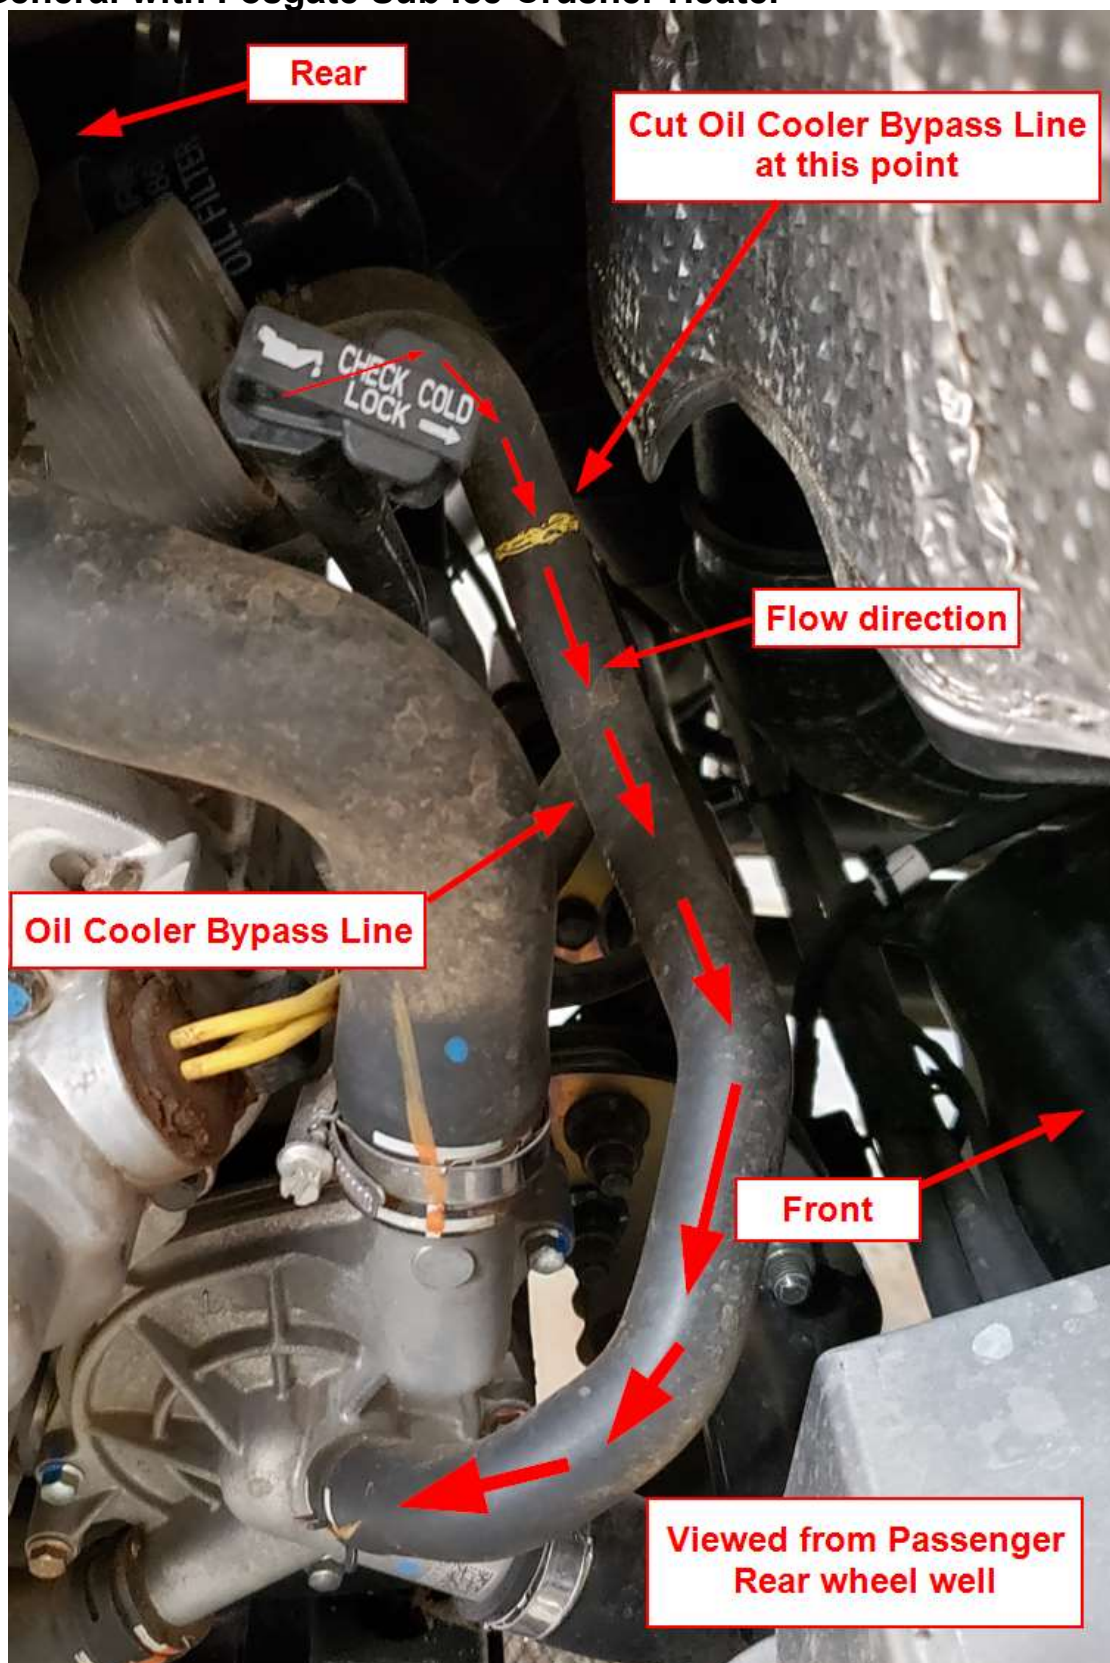
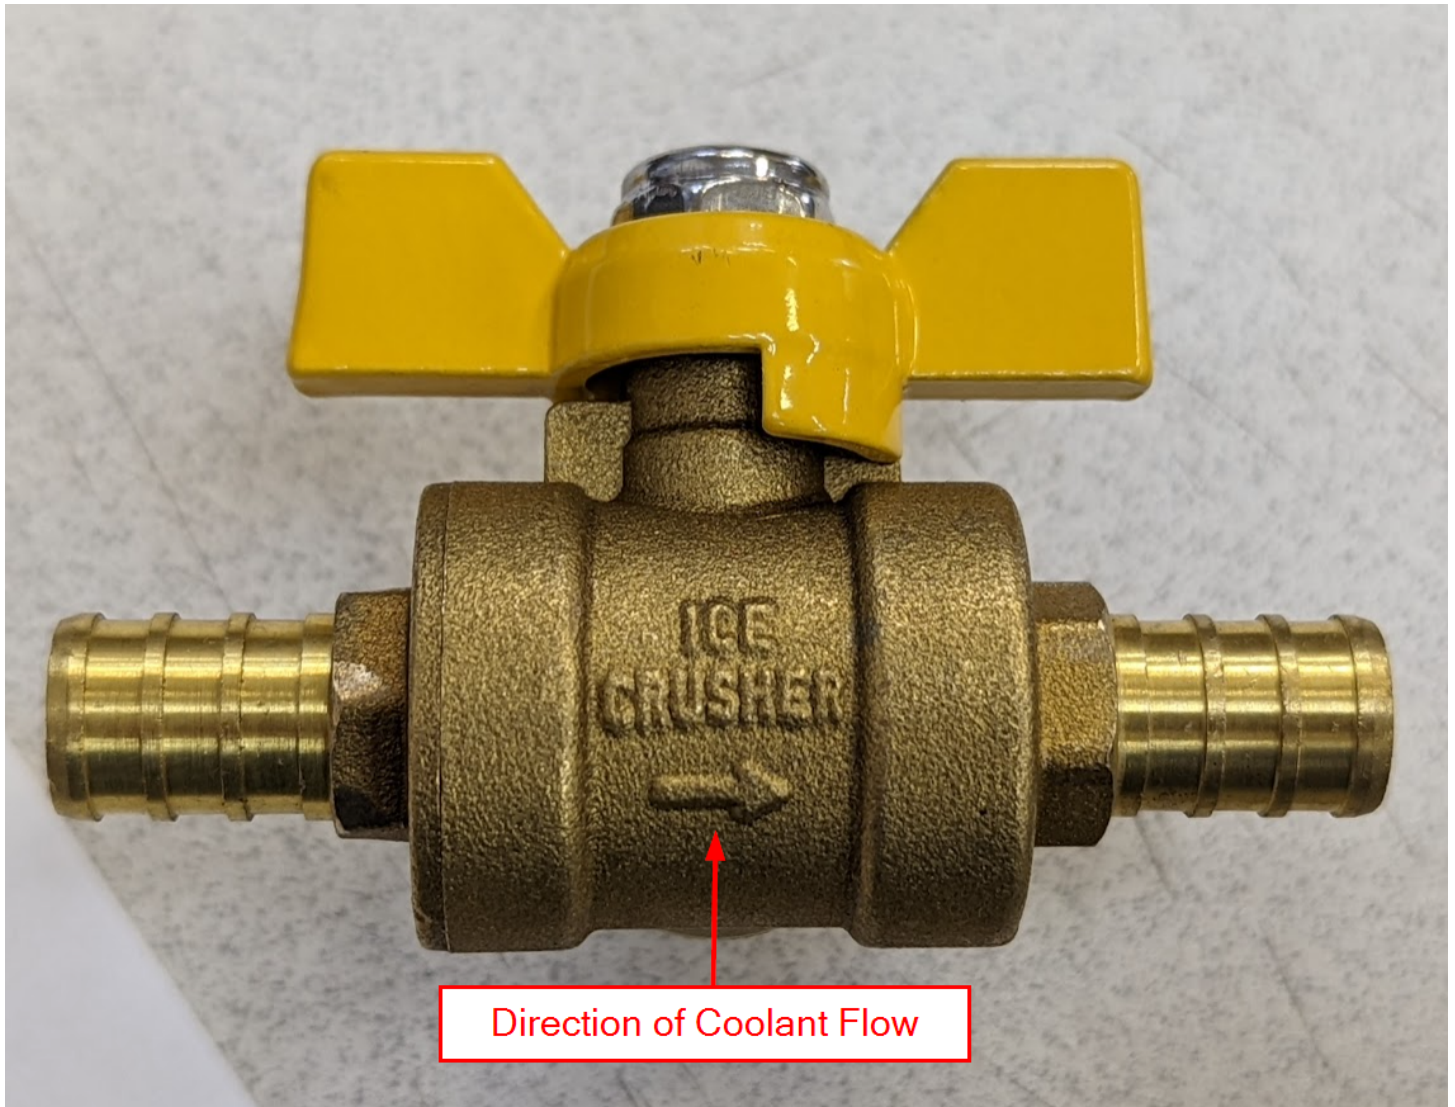

Figure 27
Figure 28
- j. From the Passenger Side Rear Wheel well, locate the Oil Cooler Bypass Hose toward the front of the engine as shown in Figure 27. Cut a 1" to 1.5" section of hose approximately at the yellow mark shown in Figure 27. Insert the 3-Way Ball Valve in the Oil Cooler Bypass Hose with the arrow on the valve, see Figure 28, following the flow direction as shown in Figure 27. Secure the valve with the supplied #10 Hose Clamps. Cut the 5/8" Heater Hose to length and connect it to the valve, using a #10 Hose Clamp to secure it.